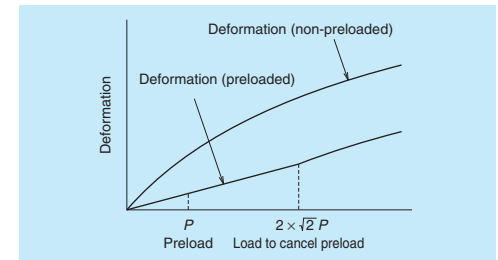

Fig. 3.2 Elastic deformation
- In general, the load range of ball guide system in which the preload is effective is about 2.8 times the preload (**Fig.3.2**). For roller guide system, it becomes about 2.2 times the preload.